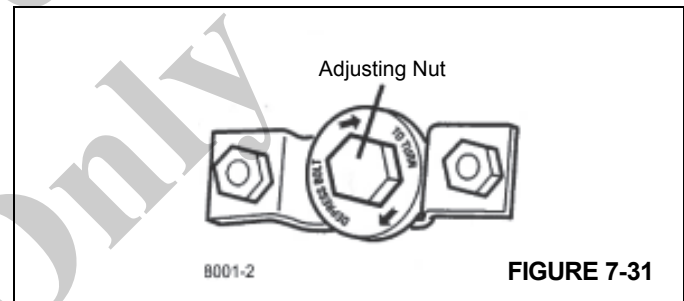

FIGURE 7-31
5. Depress clutch and turn adjusting nut. Clockwise moves the bearing toward transmission, (Figure 7-31)